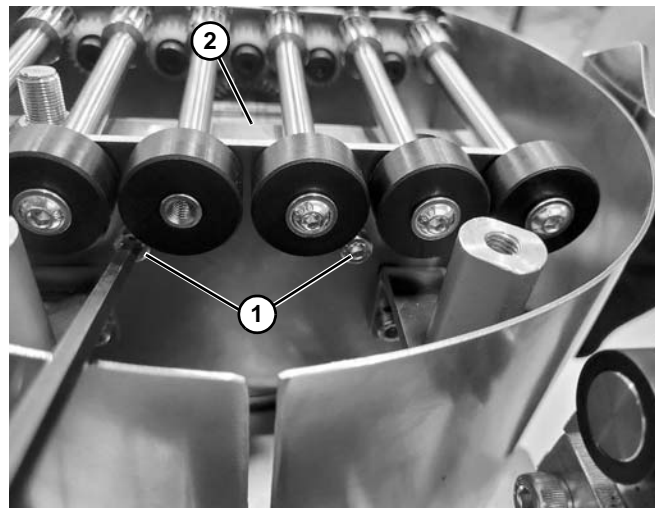

Figure 138
6. Loosen two screws (Figure 138, item 1) on sensor bracket (Figure 138, item 2), so the bracket is no longer secured.